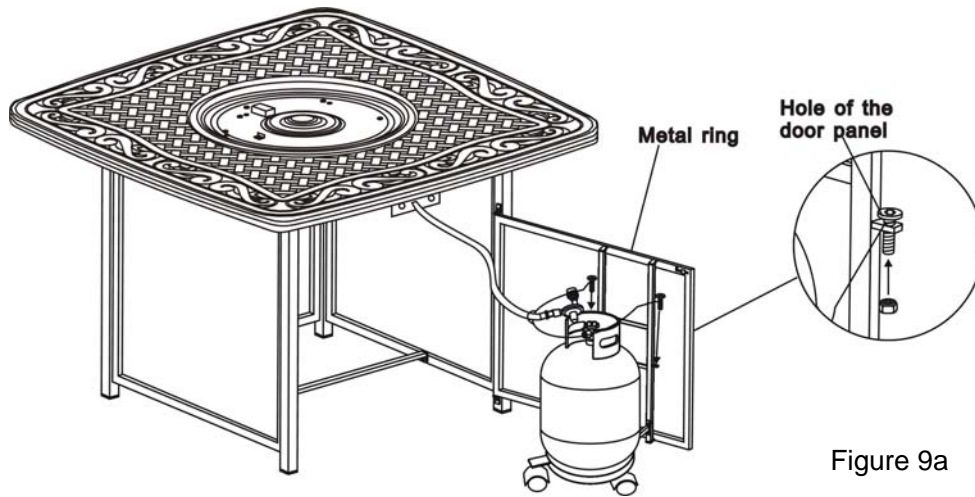
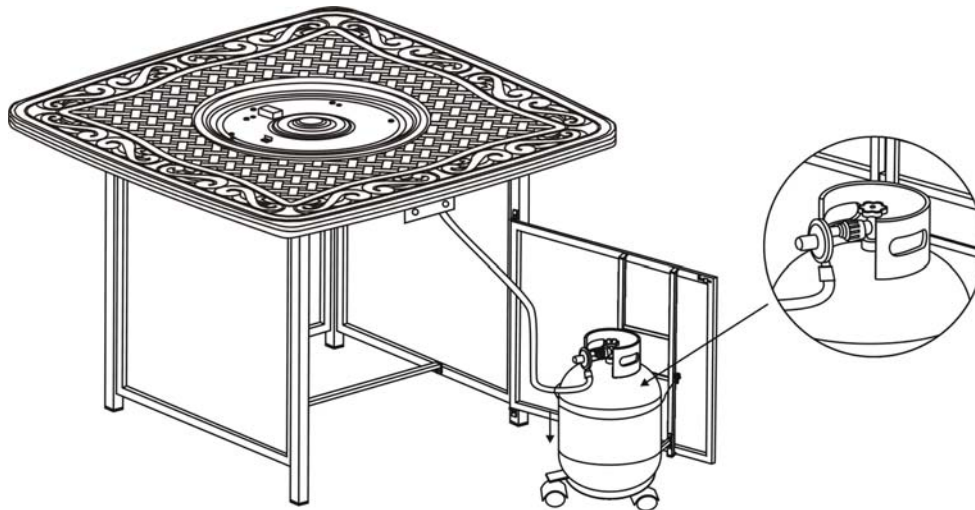

Figure 9
Figure 10
9. Attach the metal ring (as shown in Figure 9) pre-fitted with gas hose which is connected to the table top , into the hole of the door panel, then use hex bolt driver to screw 1/4"x5mm nut , the gas tank has fixed as shown in Figure 9a. Connect the regulator as shown in Figure.10 Screw the black handle clock-wise to tighten. Turn the handle counter clock-wise to remove. The hose must point down. Check that the valve is turned all the way clockwise to the "OFF" position.